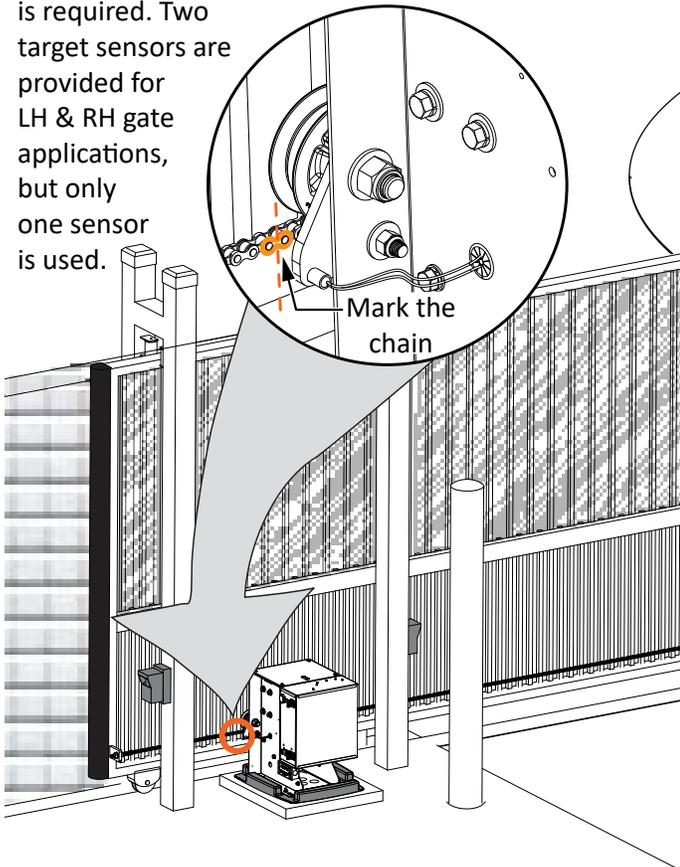

Figure 18. Marking Chain Link for Target Sensor
1. With the gate CLOSED, mark the chain link directly across from target sensor that is closest to the trailing edge of the gate. See Figure 18.